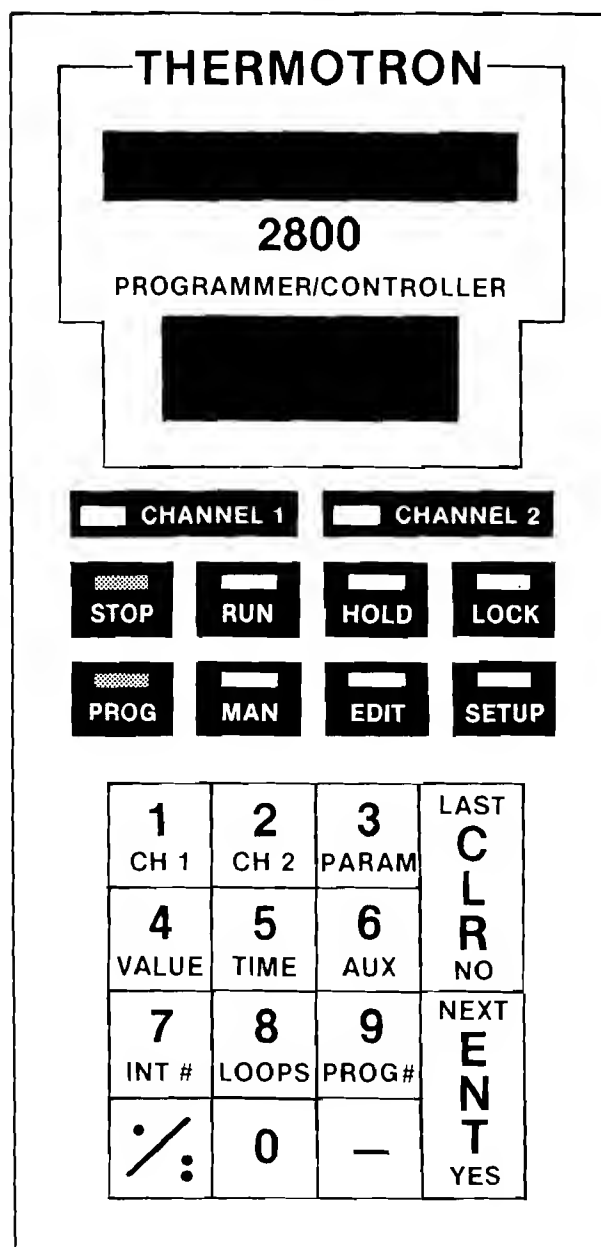

FIGURE 5
1. While the program is in the STOP state, press the **PROG** key. See Figure 5.